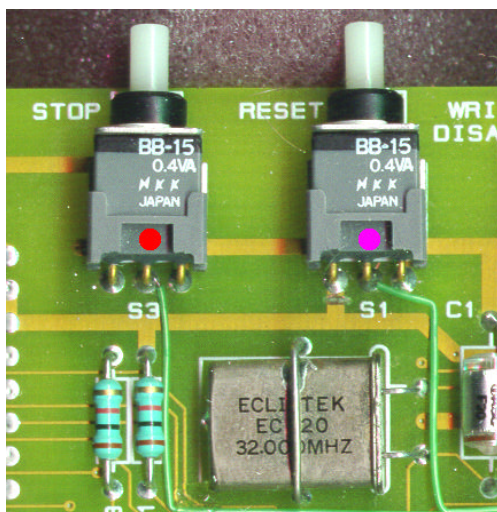

Figure 4. Switch connections
- Connector J3 Pin 14 to Switch S3 (Stop) middle terminal (red dot to red dot ; Fig. 4)
- Connector J3 Pin 16 to Switch S1 (Reset) middle terminal (purple dot to purple dot ; Fig. 4)